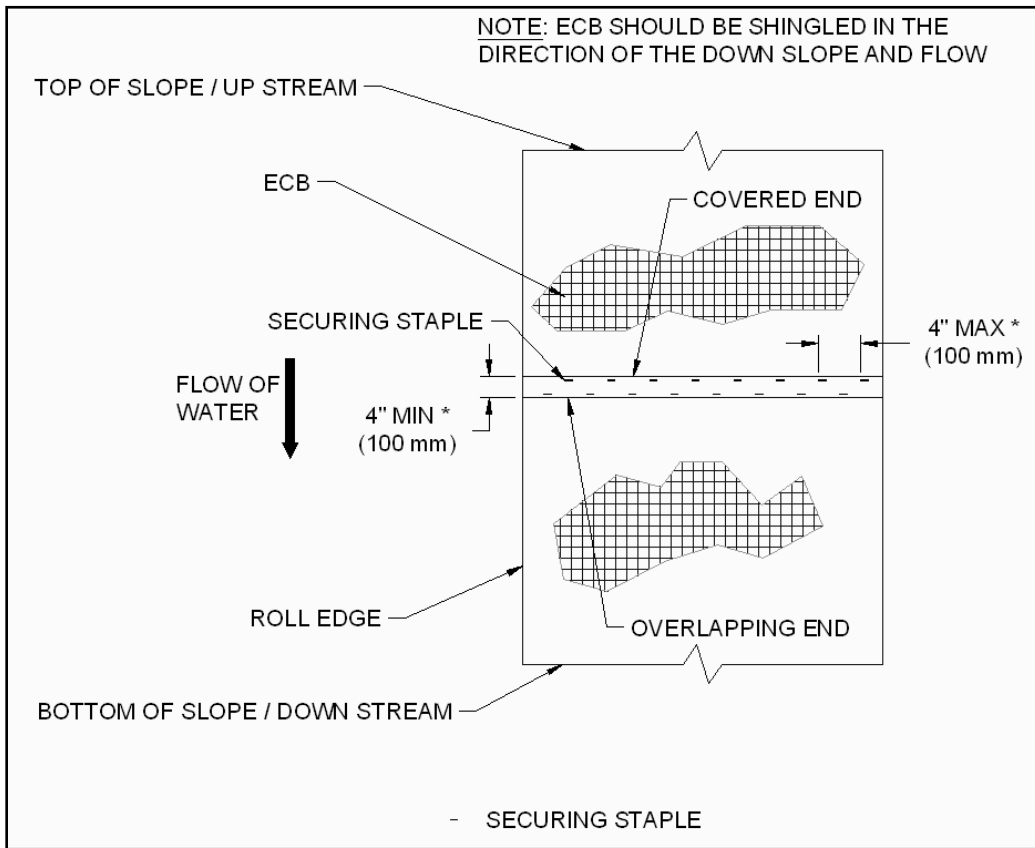

Figure 7: Roll End Overlap
- Roll ends shall be overlapped a minimum of 4 in (100 mm) with upstream / upwind panel on top. Secure roll end overlaps with two rows of staples staggered 4 in (100 mm) apart on 4 in (100 mm) centers (Figure 7)